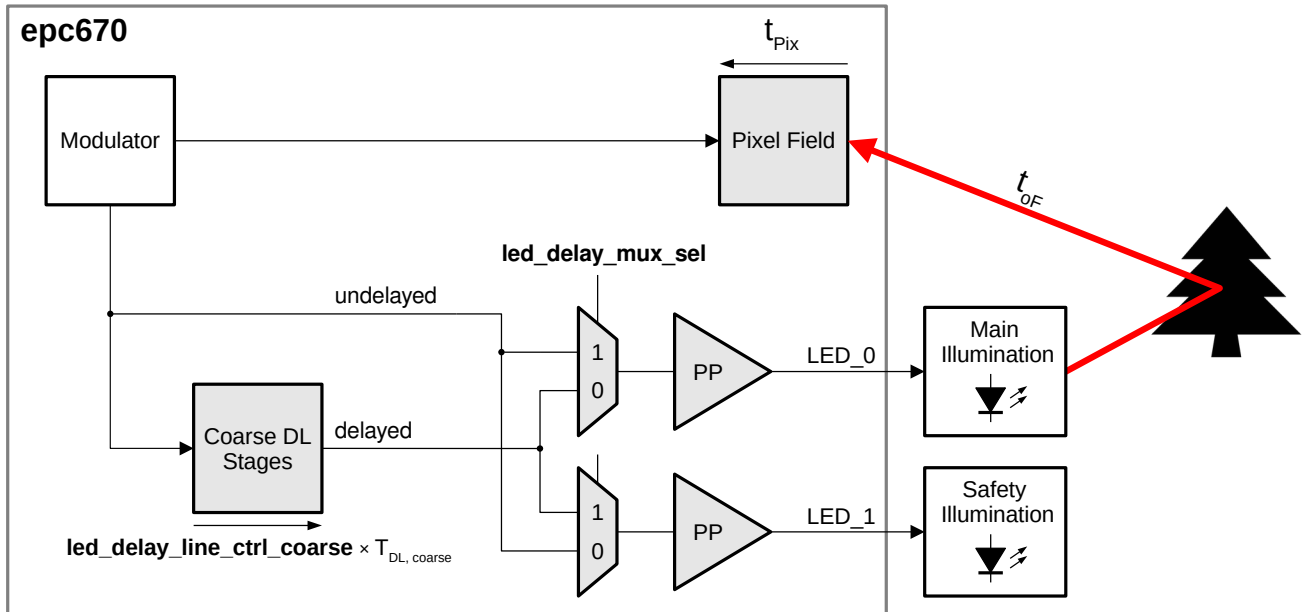

Figure 69: Delay line usage in combination with illumination control pins
The modulation control signal for the illumination can intentionally be delayed with the on-chip delay line (DL) in order to add a phase shift between the modulation of the light source and the demodulation of the backscattered light as illustrated in Figure 69. Such a phase shift results in a virtual distance shift.